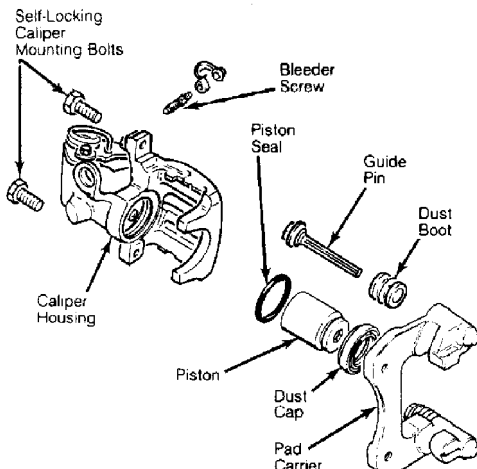

Fig. 5: Identifying Caliper Components (Typical)
2) On all calipers, remove caliper mounting bolts. See Fig. 5. Remove caliper assembly from wheel bearing housing. To install, reverse removal procedure. Use NEW lock plates (if equipped) and mounting bolts. Bleed hydraulic brake system. See BLEEDING PROCEDURES under BLEEDING BRAKE SYSTEM.
Refer to appropriate illustration for caliper and master cylinder overhaul. See Figs. 5 and 6.